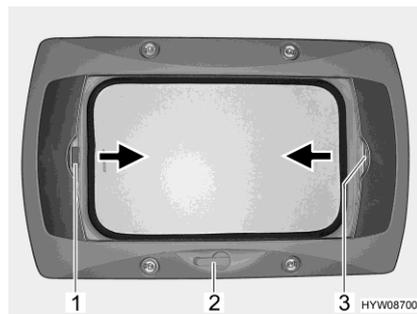

Fig. 47 Wind-up skylight
*Opening:* ■ Rotate the hand crank (Fig. 47,2) until a resistance can be felt.
*Closing:* ■ Pull the handle of the Roman shade (Fig. 47,3) in the direction of the arrow and release it in the desired position. The Roman shade will stay in that position.
*Closing:* ■ Use the handle to pull the insect screen (Fig. 47,1) in the direction of the arrow to the opposite handle of the Roman shade (Fig. 47,3) and allow it to engage.
*Opening:* ■ Press the handle of the insect screen (Fig. 47,1) at the back upwards and detach the insect screen from the Roman shade (Fig. 47,3).